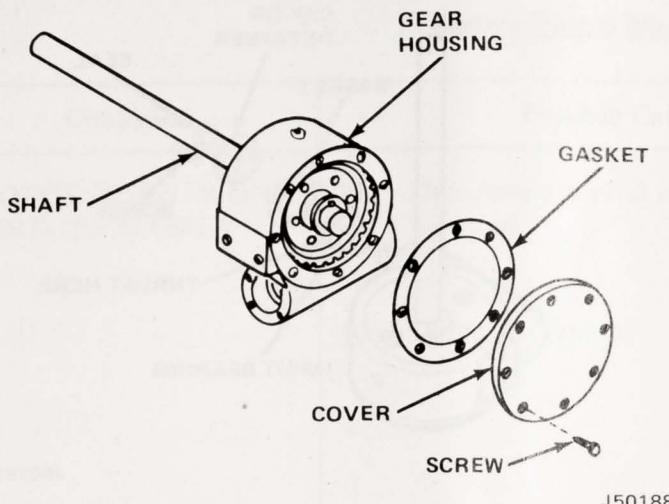

Fig. 5-24 Gear Cover and Housing
(18) Turn gear housing over and remove capscrews from cover (fig. 5-24).
(10) Insert drum shaft with gear through housing (fig. 5-24).
(11) Mount gasket onto cover and position cover on housing.